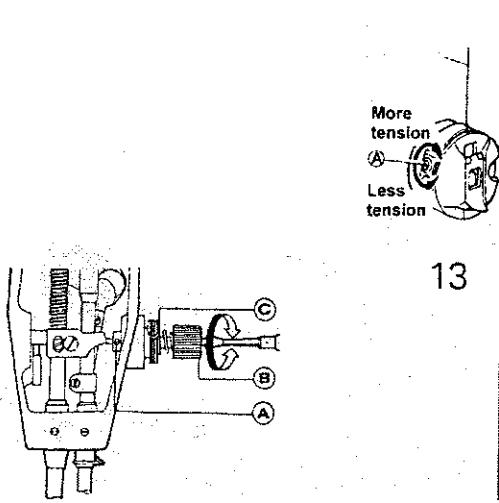

Fig. 13
To adjust the thread take-up spring tension: (Fig. 13), first loosen the set screw (A) then turn the tension stud (B) counter clockwise to decrease the tension of the thread take-up spring ( C ) to zero. then turn the tension stud (B) clockwise till the spring (C) comes to the notch of the tension regulating bushing, and again turn the tension stud (B) halfway back (counter clockwise ), After the adjustment, tighten the set screw (A).